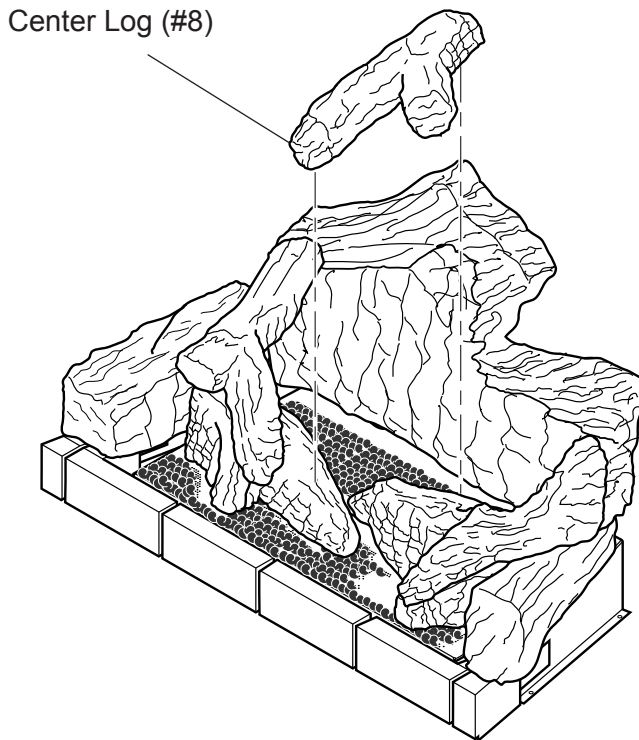

Figure 55 - Installing Center Top Log (#8)
11. Place top center log (#8) across rear log (#1) and left mid log (#6). See *Figure 55*.